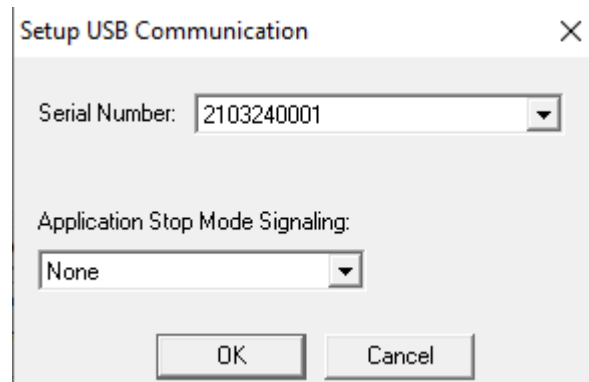

Figure 6. Setup USB Communication
9. Verify that a Serial Number is displayed in the Setup USB Communication dialog as shown in Figure 6. If multiple Encore! Smart Cables are connected to the PC, click the chevron to display the serial number of each Smart Cables and select which to use when programming or debugging the target. If no serial numbers are displayed, verify that the Encore! Smart Cable is attached to the PC and see Appendix B. Installing the Encore! Smart Cable Driver for instructions on installing the necessary device drivers.